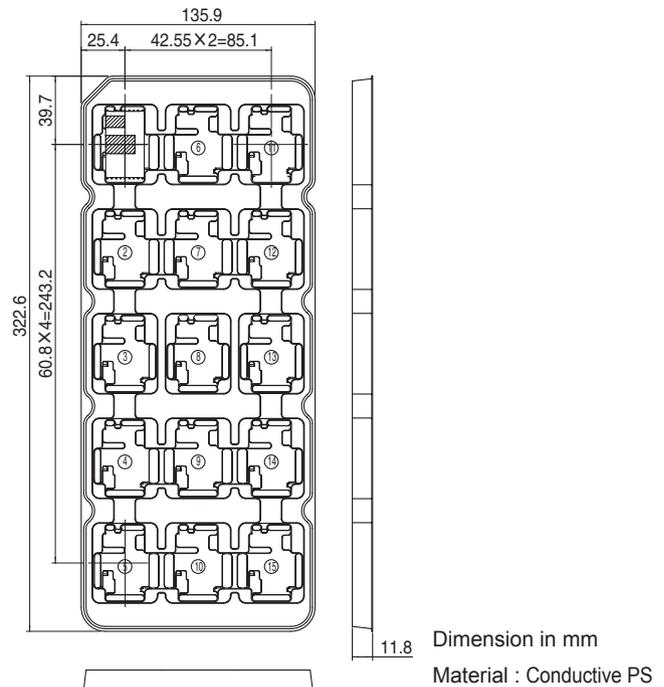

Fig.8.1 Delivery package information (SFLS10/SFLS15)
- These are packed in a tray (Fig.8.1, 8.2).